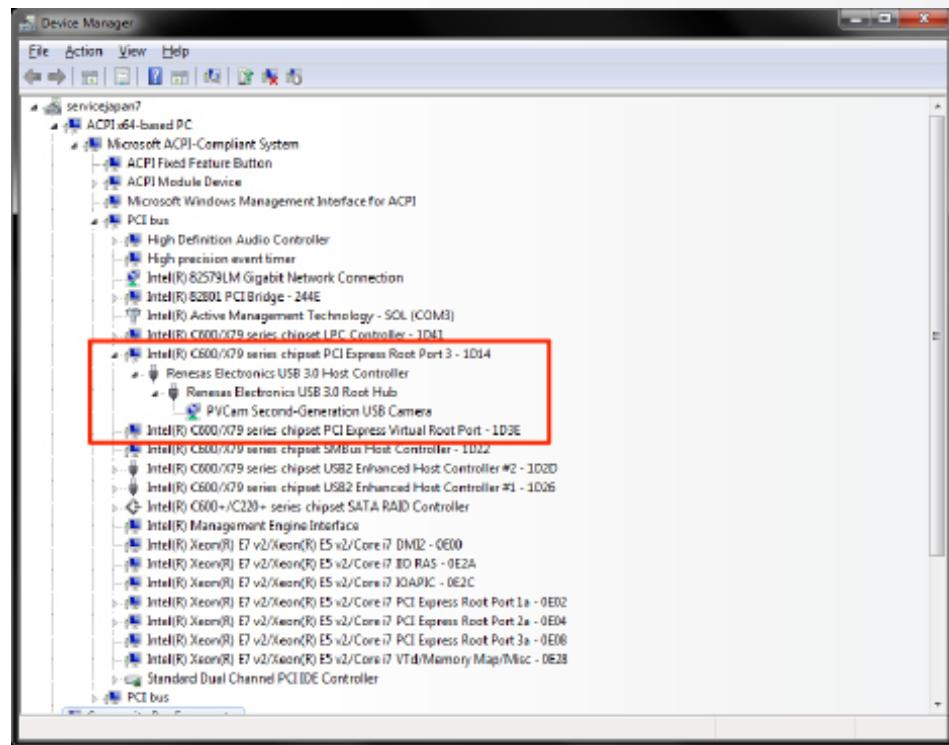

Figure 2. Photometrics USB3 camera is the only device on its USB Root Hub.
should be connected to a USB 3.0 port. It should also be the only device on its USB root hub controller (see Figure 2 below). Please see the following section on how to select the appropriate USB port for optimum camera performance. This ensures the maximum bus bandwidth is available to the camera for data transfers. USB 3.0 ports are often (but not always) identifiable by a blue internal socket or the "SuperSpeed" (or just "SS") USB logo.
3. According to Figure 2, find the USB host controllers, expand them, and check whether your camera is the only device connected to the Root Hub.